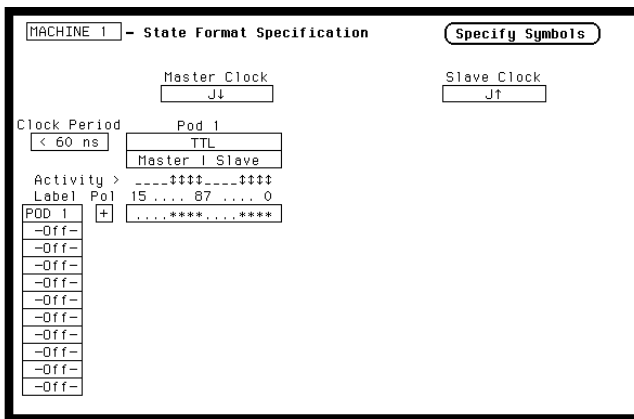

Figure 3-23. State Format Specification for Data Test 5
- Set up the **State Format Specification** as in figure 3-23, assigning the falling J clock to **Master Clock** and the rising J clock to **Slave Clock**. Refer to steps a through d after figure if unfamiliar with the menu.